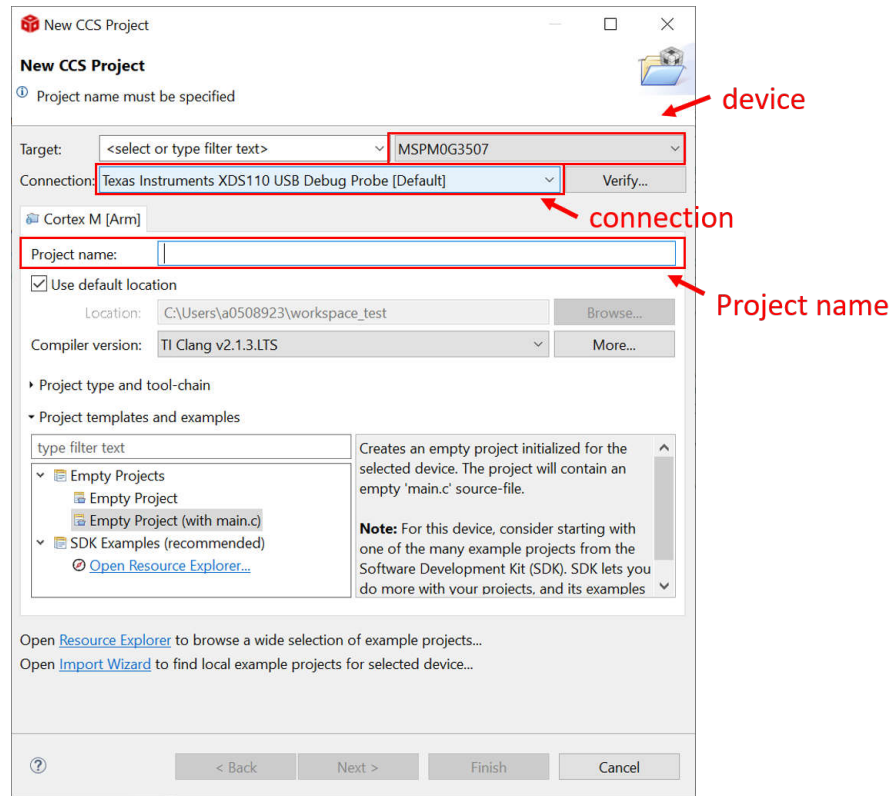

Figure 2-20. Create a New Project in CCS
- If you want to create a new project, go to file--> new-->CCS project. There are two important items that need to be done. The first one is to choose MSPM0 device and the other one is to choose the connection, as shown in Figure 2-20. And then, the program can be created after project name is added and press finish button. It is recommended to find the MSPM0 SDK example, which introduces how to use CCS in Section 2.2.4.